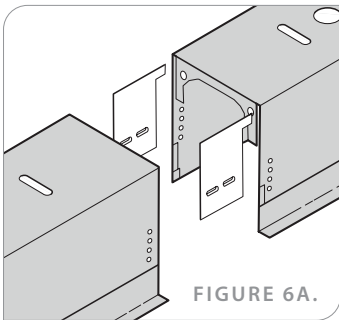

FIGURE 6A.
1. Install (2) housing aligner splines per seam and secure to housing using 8-32 x 3/8" screws (Figure 6A & 6B).